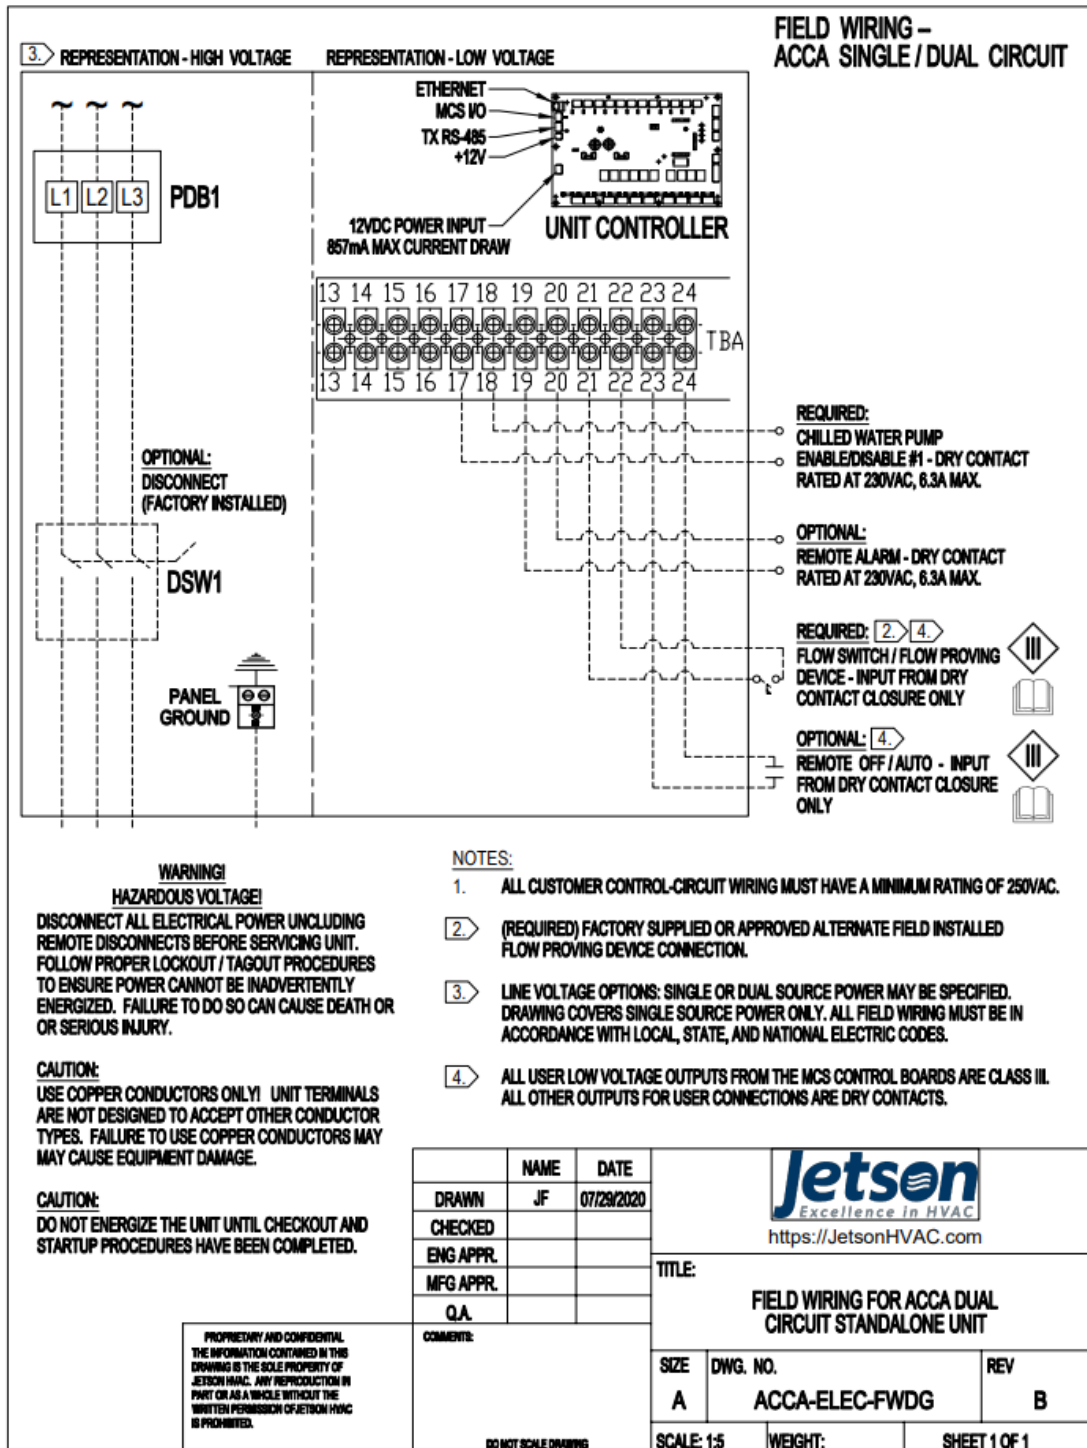

Figure 5: Sample Electrical Diagram. Contact Factory for specific wiring diagram needs.
1. Use small flat-head screwdriver into the square hole on the terminal. Press firmly until the screwdriver hits the back stop and opens the terminal (see Figure 5).